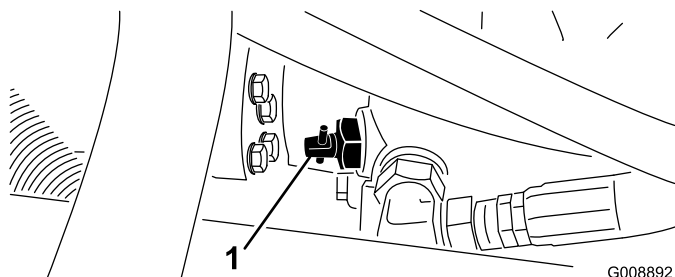

Figure 42
1. Locate the bypass valve on the pump (Figure 42) and rotate it 90°.